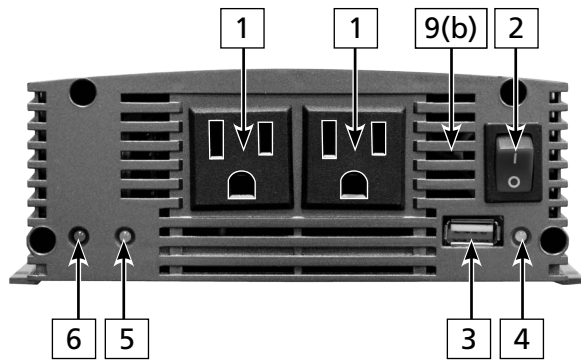
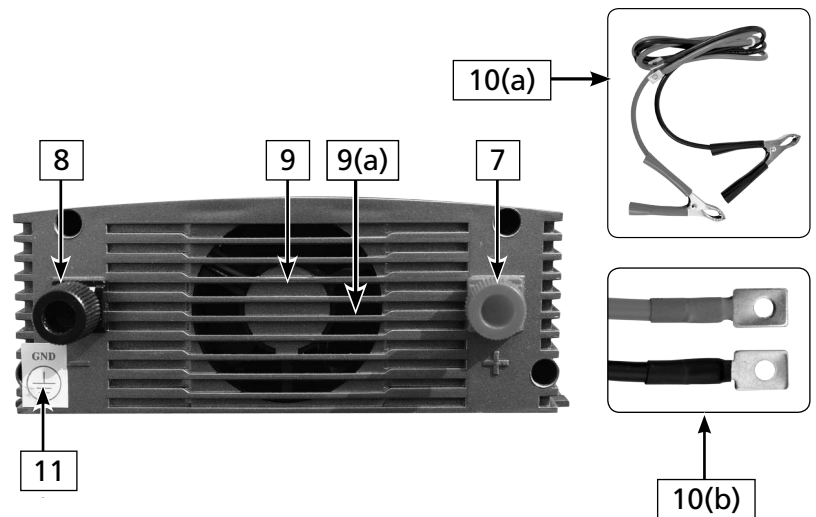

Fig 3.1.1 Front of the unit
Fig 3.1.2 Back of the unit
#### Legend for Fig 3.1.1 and 3.1.2
**Well ventilated:** The unit is cooled by convection and by forced air-cooling by 2-speed, load controlled fan(s) (9 in Figs 3.1.2 & 3.2.2). SSW-350 and 600 1 fan and SSW-1000, 1500 and 2000 have 2 fans. The fan(s) will run as soon as the unit is switched ON – at slow speed from no load/to loads up to 10% of the power rating of the inverter and at full speed thereafter. The fan(s) draws cool air from air intake openings in the front (9(b) in Figs 3.1.1 and 3.2.1) and discharges hot air through the exhaust openings next to the fan (9(a) in Figs 3.1.2 and 3.2.2). To avoid shut down of the inverter due to over temperature, do not cover or block these suction / exhaust openings or install the unit in an area with limited airflow. Keep a minimum clearance of 10" around the unit to provide adequate ventilation. If installed in an enclosure, openings must be provided in the enclosure, directly opposite to the air-suction and air-exhaust openings of the inverter.
Table 4.1 provides details of Battery Cables and DC Fuses for connecting the battery to the DC input terminals of the inverter (7, 8 in Figs 3.1.2 and 3.2.2)